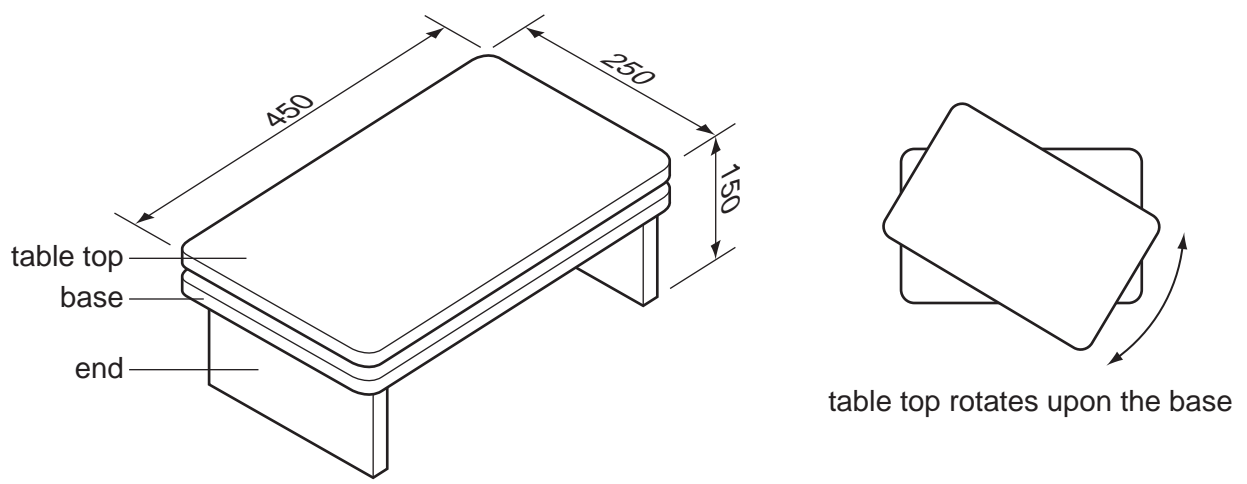

Fig. 4
- 11 Fig. 4 shows views of a table for a computer monitor. The table is made from 18 mm thick veneered manufactured board. It is designed as flat-pack for self-assembly.